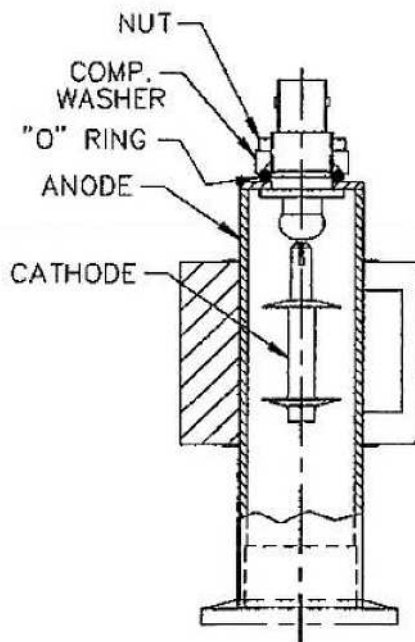

Figure 1: Older Style 525
- a. Remove and discard the compression washer and O-ring (Figure 1: Older Style 525).